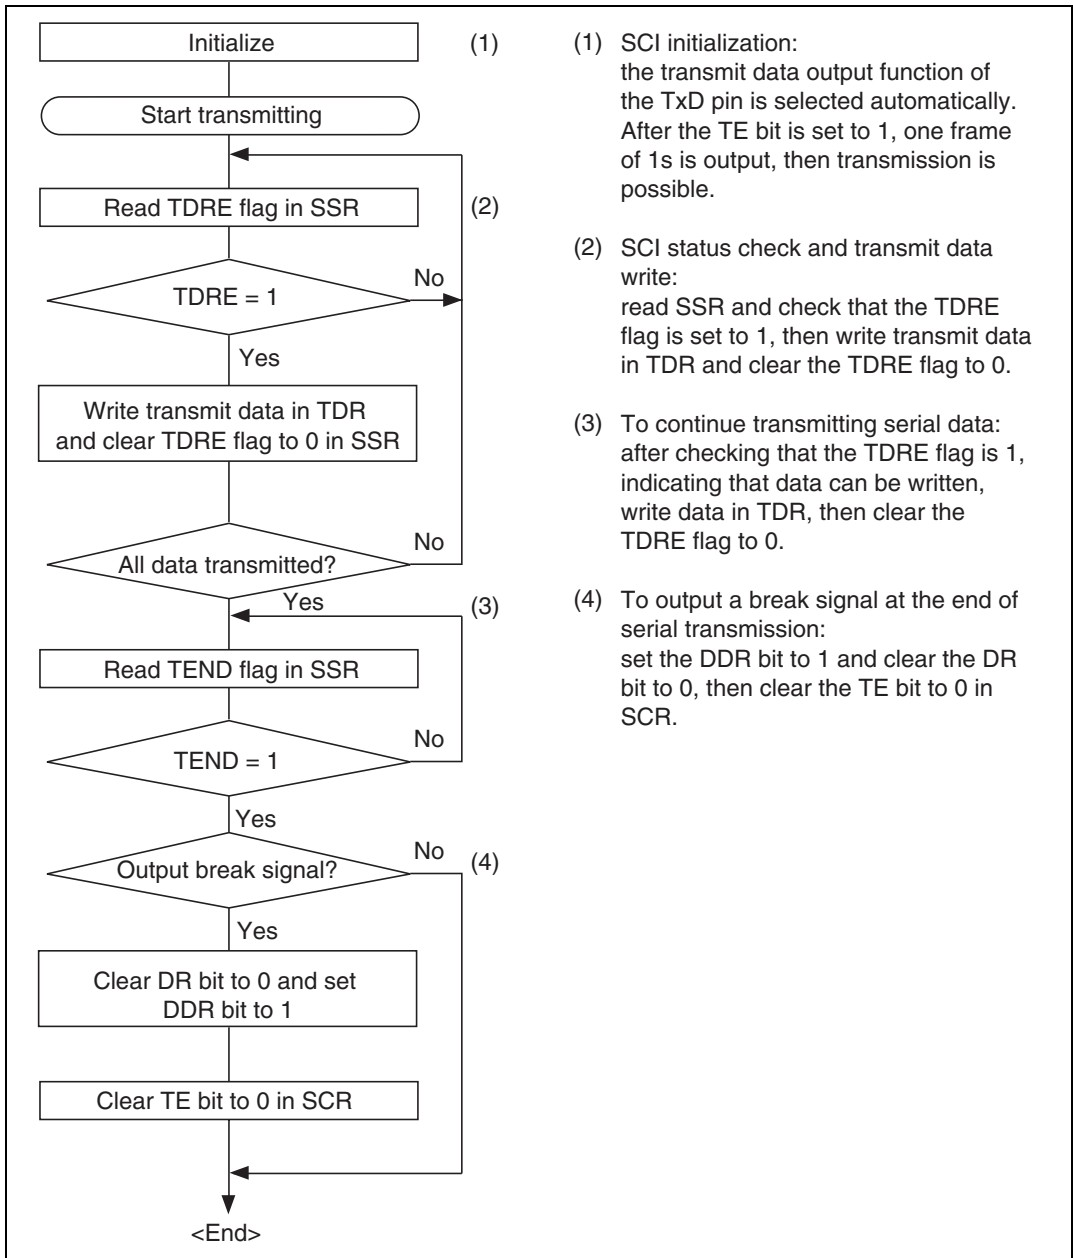

Figure 12.5 Sample Flowchart for Transmitting Serial Data
- **Transmitting Serial Data (Asynchronous Mode):** Figure 12.5 shows a sample flowchart for transmitting serial data and indicates the procedure to follow.